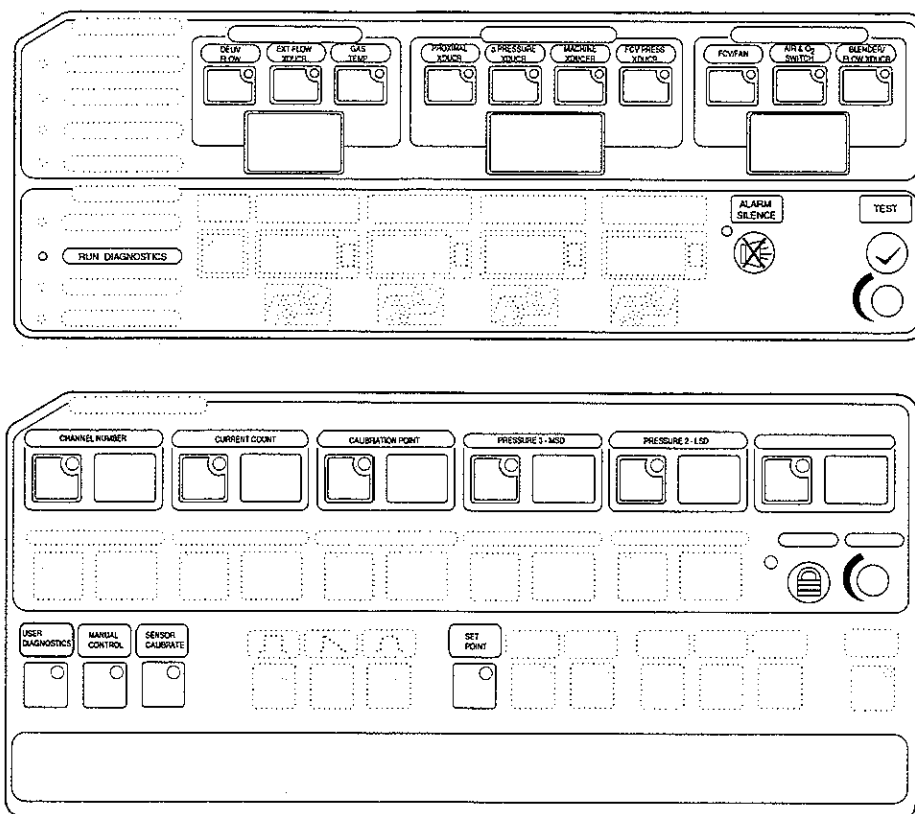

Figure 5-3
Refer to Figure 5-3 for the redefined functions of the Control and Monitor Panels to perform the calibrations.
1. Press the Manual Control key to enter the Service Diagnostics Manual mode (See Figure 5-3).